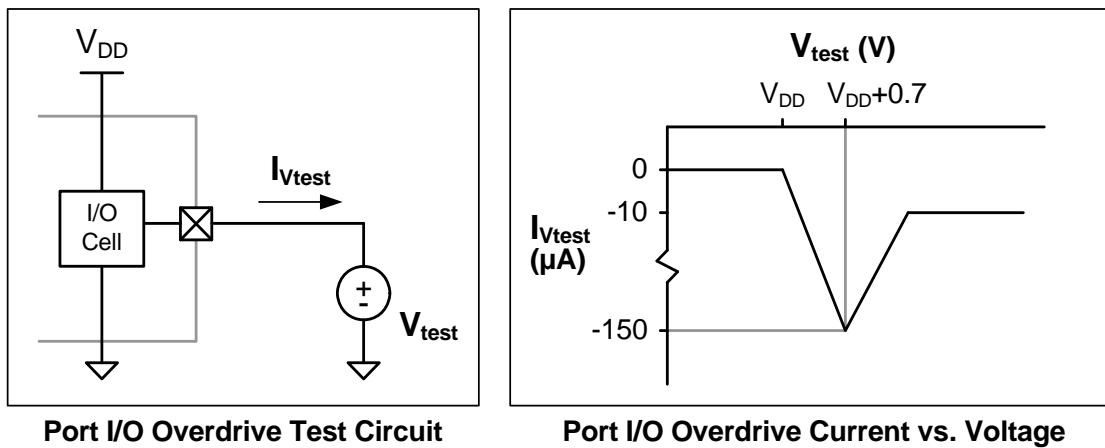

Figure 28.3. Port I/O Overdrive Current
**Important Note:** In a multi-voltage interface, the external pull-up resistor should be sized to allow a current of at least 150  $\mu$ A to flow into the Port pin when the supply voltage is between (VDD + 0.6V) and (VDD + 1.0V). Once the Port pin voltage increases beyond this range, the current flowing into the Port pin is minimal. Figure 28.3 shows the input current characteristics of port pins driven above VDD. The port pin requires 150  $\mu$ A peak overdrive current when its voltage reaches approximately (VDD + 0.7 V).